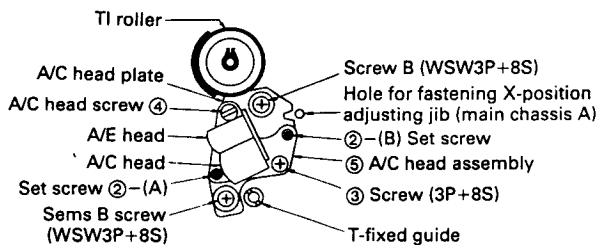

Figure 23.
- If the tape does not travel properly, perform the following (see Figure 23 and 25).
- 4) If the above requirements are not met, make adjustment with screw (2)-A and (2)-B. Turn them little by little.
- 7) Set the tracking control at its preset position. Loosen two sems B screws (WSW3P + 8S) (see Figure 23)